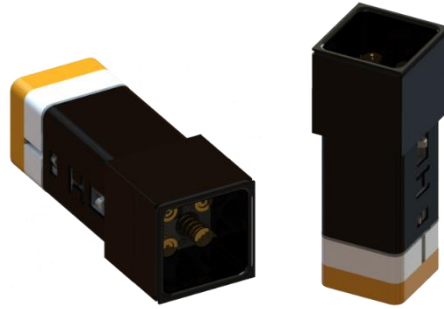

Figure 5: Model 98 "Coded" – Long Housing Shown
- Model 98 "Coded" Switch or indicator assemblies without pushbuttons (longer housings with crimp pin receptacle for wire terminations) (Figure 5: Model 98 "Coded" – Long Housing Shown).